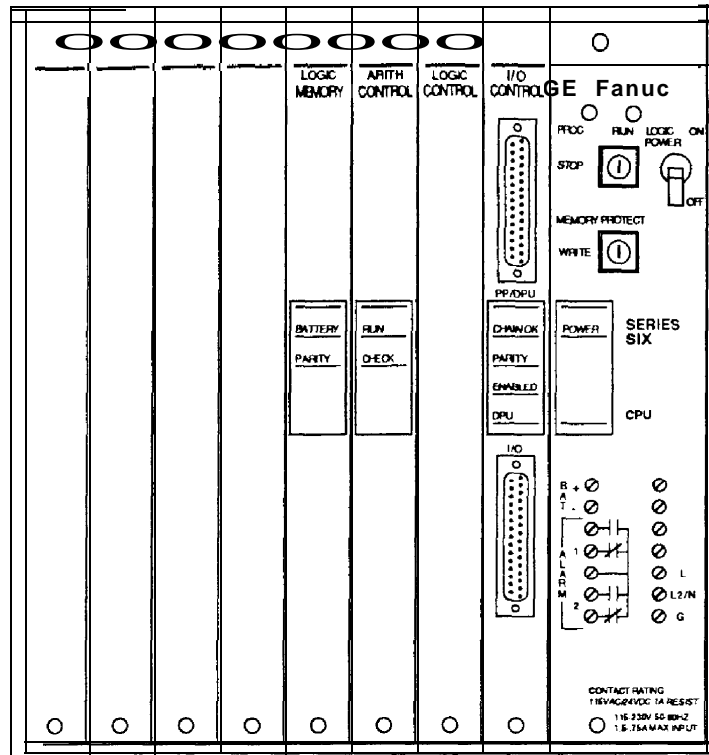

Figure 3.5 POSITIONING THE EXTRACTION/INSERTION TOOL FOR BOARD REMOVAL
- Insert the board puller studs into the printed circuit board from the solder side of the board. Ensure that the board puller surface is flat against the printed circuit board. The board puller is now 180 degrees reversed from the position for inserting a board. See figure 3.5 which shows proper positioning of the tool.